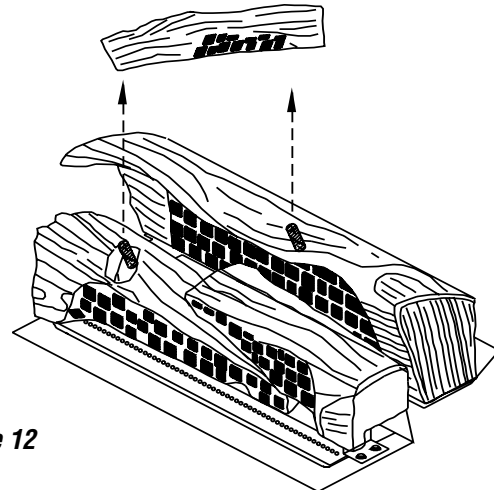

Figure 12
- 5) The remaining straight twig has two holes in the bottom. Position the twig so the black and white charring is to the front and slide the holes over the peg in the left front log and the peg in the rear log (*Figure 12*). It may be necessary to roll the top of the rear log slightly forward to put this twig on the pegs.